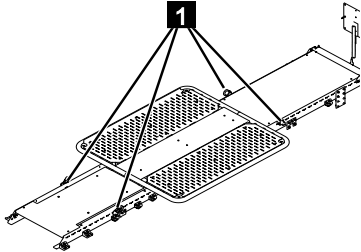

Fig. 265
1. Tighten attachment points (Fig.265/1) with the correct torque (→Chapter 8.4.3 „Tightening torques”, on page 203) and check for damage and movability. Replace if necessary.